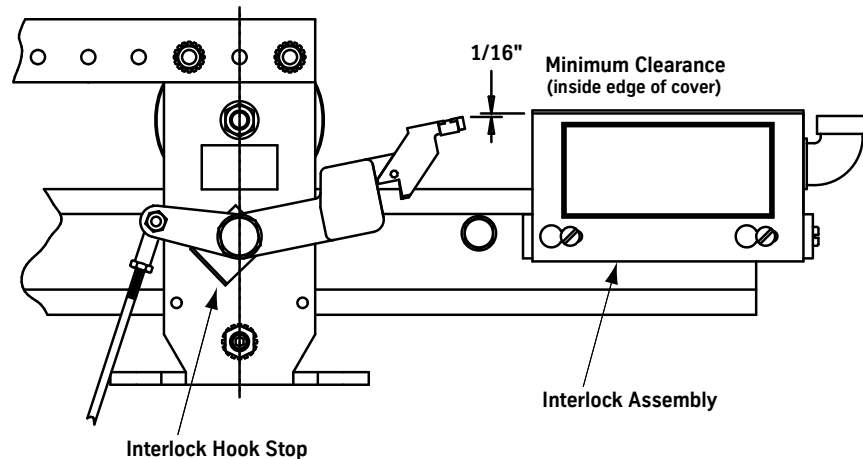

Figure 16 - Adjust the Interlock Hook Stop
7. Ensure that when the interlock hook is raised (by actuation of the rollers), the hook clears the box at the top by a minimum of 1/16". See Figure 16.